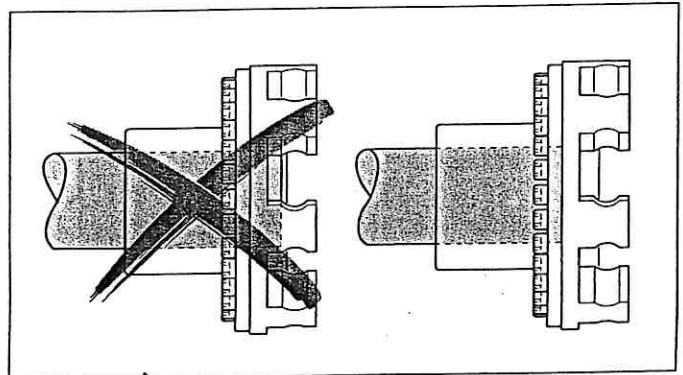

Fig. 3
- Slide the coupling halves onto the shaft to achieve full engagement only, e.g. the shaft end should be flush with the end of the hub and not protrude into the claw ring (Fig. 3). Observe deviating agreements!